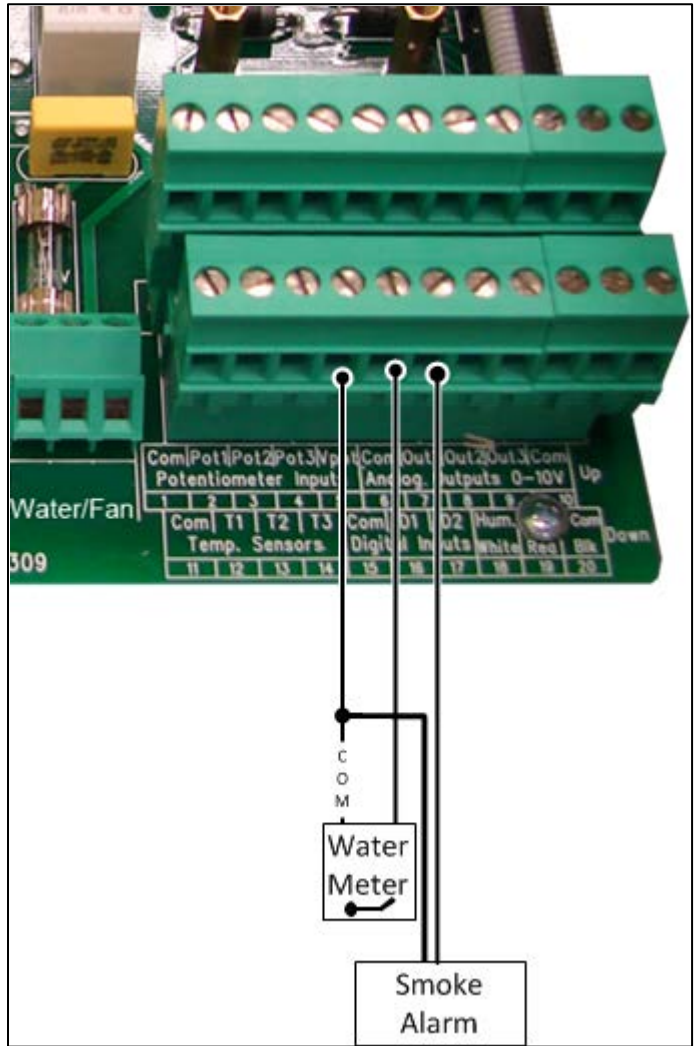

Figure 7: Digital Sensor Wiring (example)
- Figure 7: Digital Sensor Wiring (example)